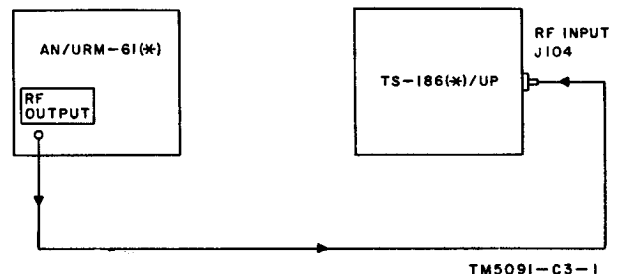

Figure 5-5. Frequency check test connections.
a. Connect equipment as shown in figure 5-5.
- (1) Set the main tuning dial to 3000.
- (2) Set the oscillator modulation selector switch to OFF.
- (3) Adjust the ZERO SET control until the POWER SET meter reads ZERO SET.
- (4) Set the oscillator modulation selector switch to CW.
- (5) Adjust the POWER SET control until the output level reference meter reads 0 (zero) DBM.